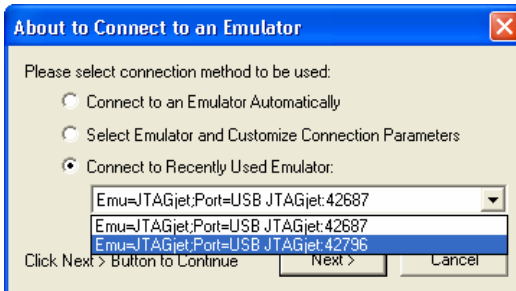

FIGURE 5 Reapplying the parameters of an earlier connection.
- The **Connect to Recently Used Emulator** method is designed to reconnect to the emulator with the settings of an earlier successful connection (Figure 5).